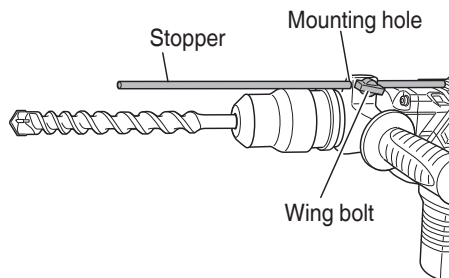

Fig. 10
- (c) Switch the selector lever to “hammering” according to the procedures mentioned in the above item (1) and secure the position of the tool.
5. Install the stopper (Fig. 10)